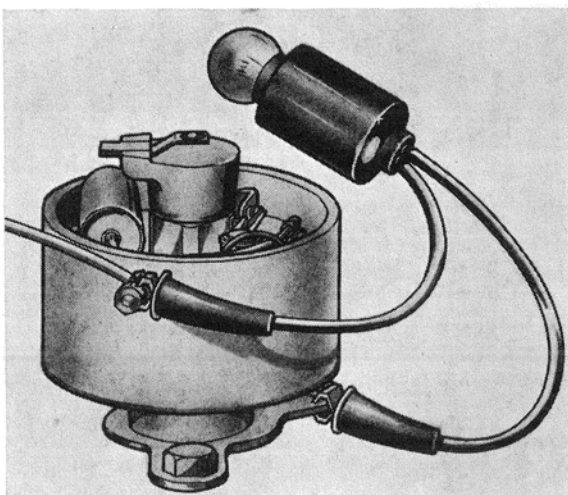

Fig. 64. Adjusting ignition timing.
3. Turn the distributor coupling to the correct position and push down the distributor into position. Connect a lamp (max. 3 W) as shown in Fig. 64. Switch on the current.